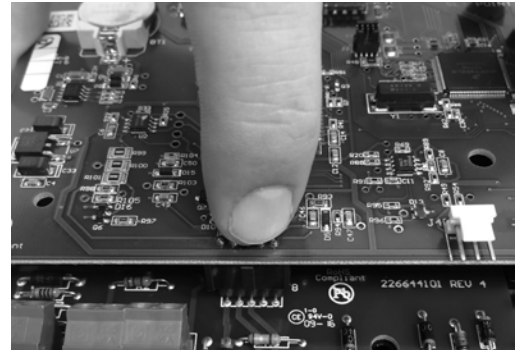

Figure 6
8. Reinstall the display board by lining up the bottom-side connector with the connector on the sensor board. Press down until fully seated (Figure 6).